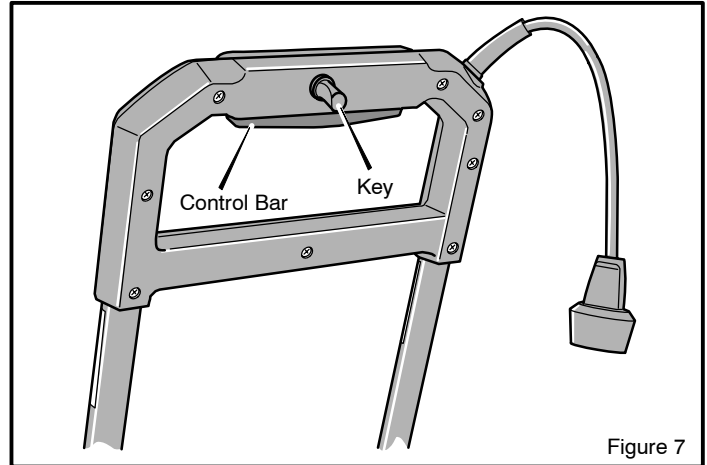

Figure 7
- To prevent accidental starting, remove key from control bar. Figure 7.
The Snowthrower will now operate when the control bar is squeezed. The Snowthrower will stop when the control bar is released. Figure 7.